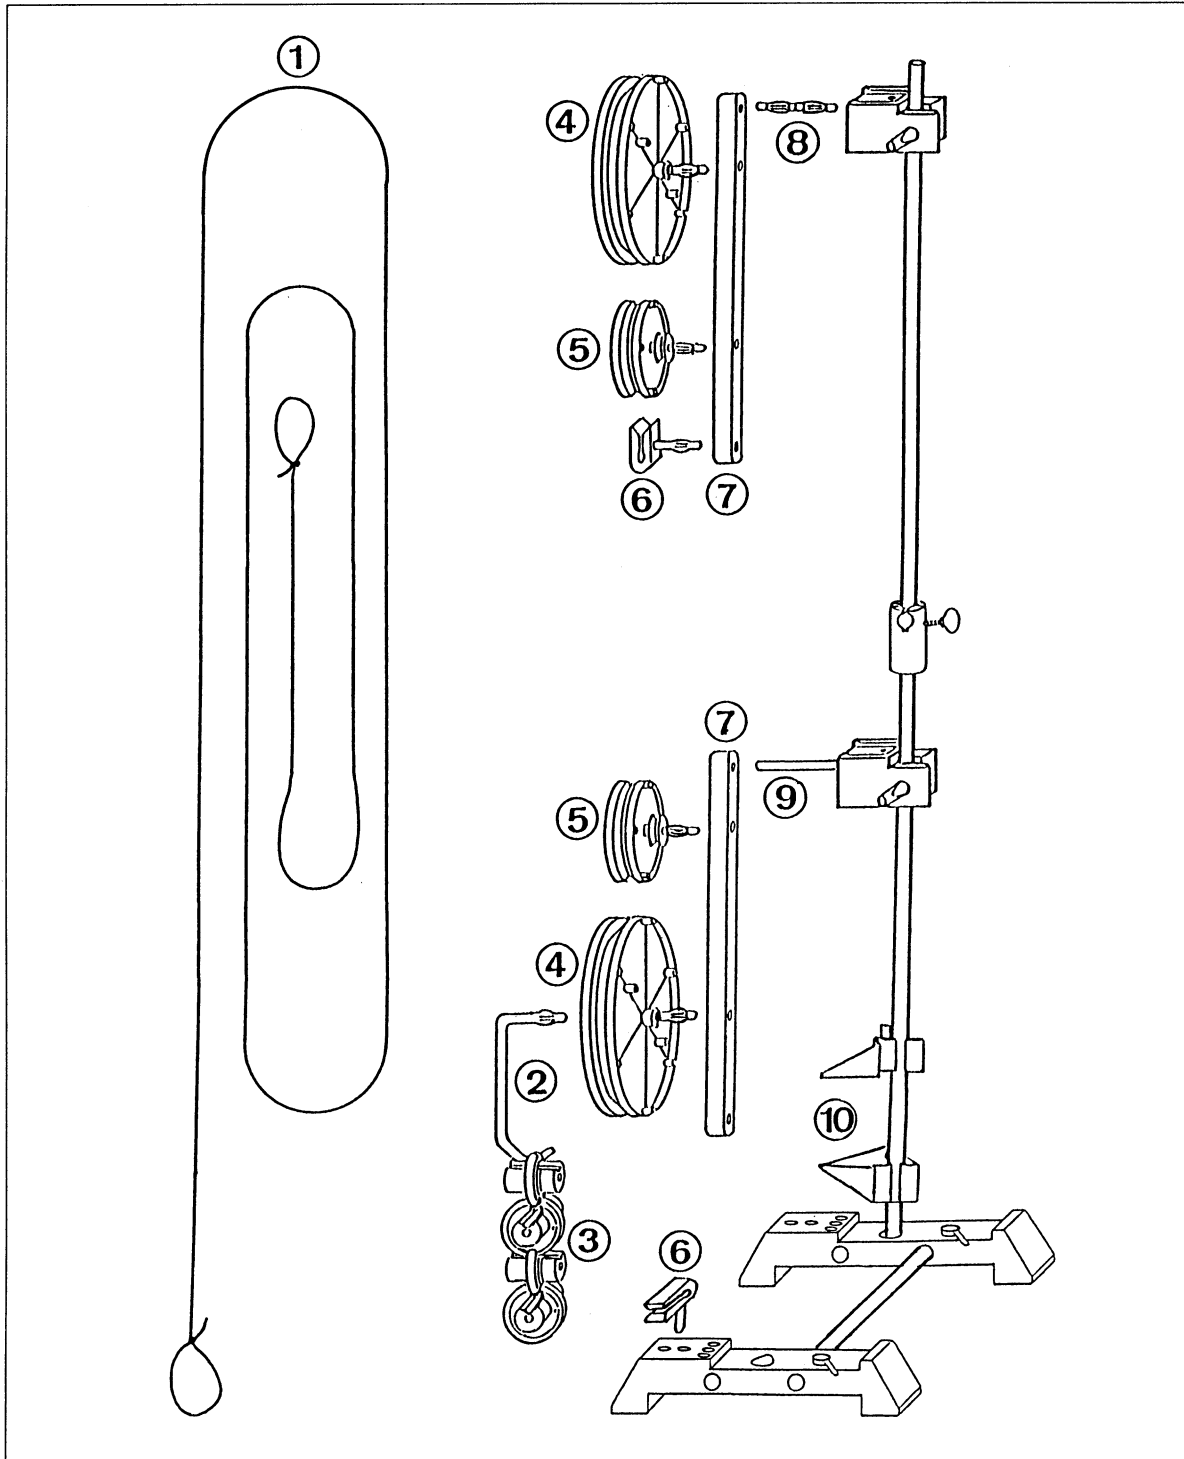

Fig. 2 Instructions for setting up a block and tackle with 4 pulleys
11. Attach the cord to the retaining clip on the stand base and wind it round the pulleys as shown in fig. 2.